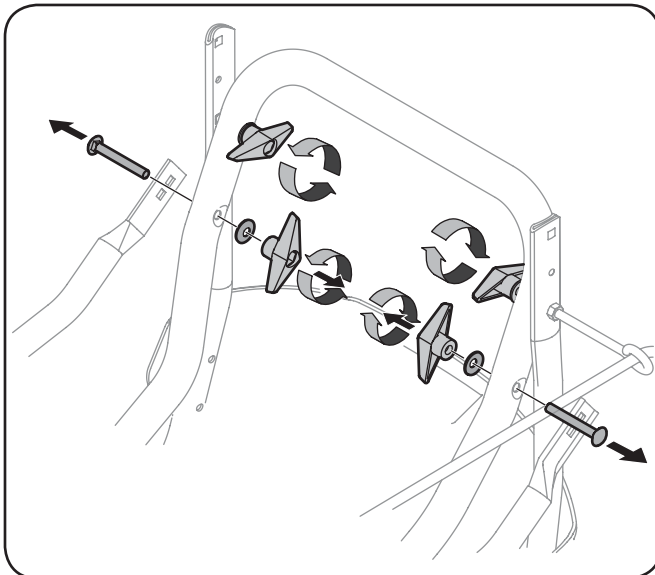

Figure 3-1
2. Remove the lower wing nut, belleville washer and carriage bolt from each side of the upper handle, as seen in Fig. 3-1.